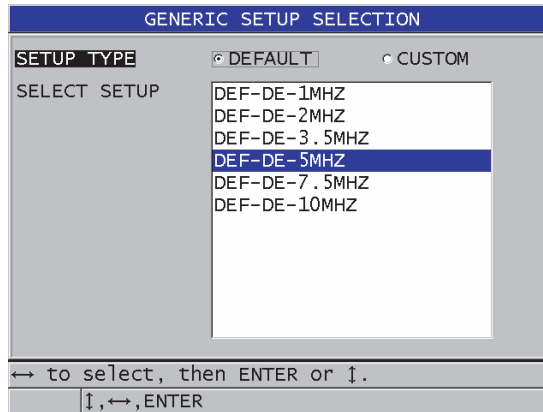

Figure 12-1 The GENERIC SETUP SELECTION screen
2. In the **GENERIC SETUP SELECTION** screen that appears (see Figure 12-1 on page 231):